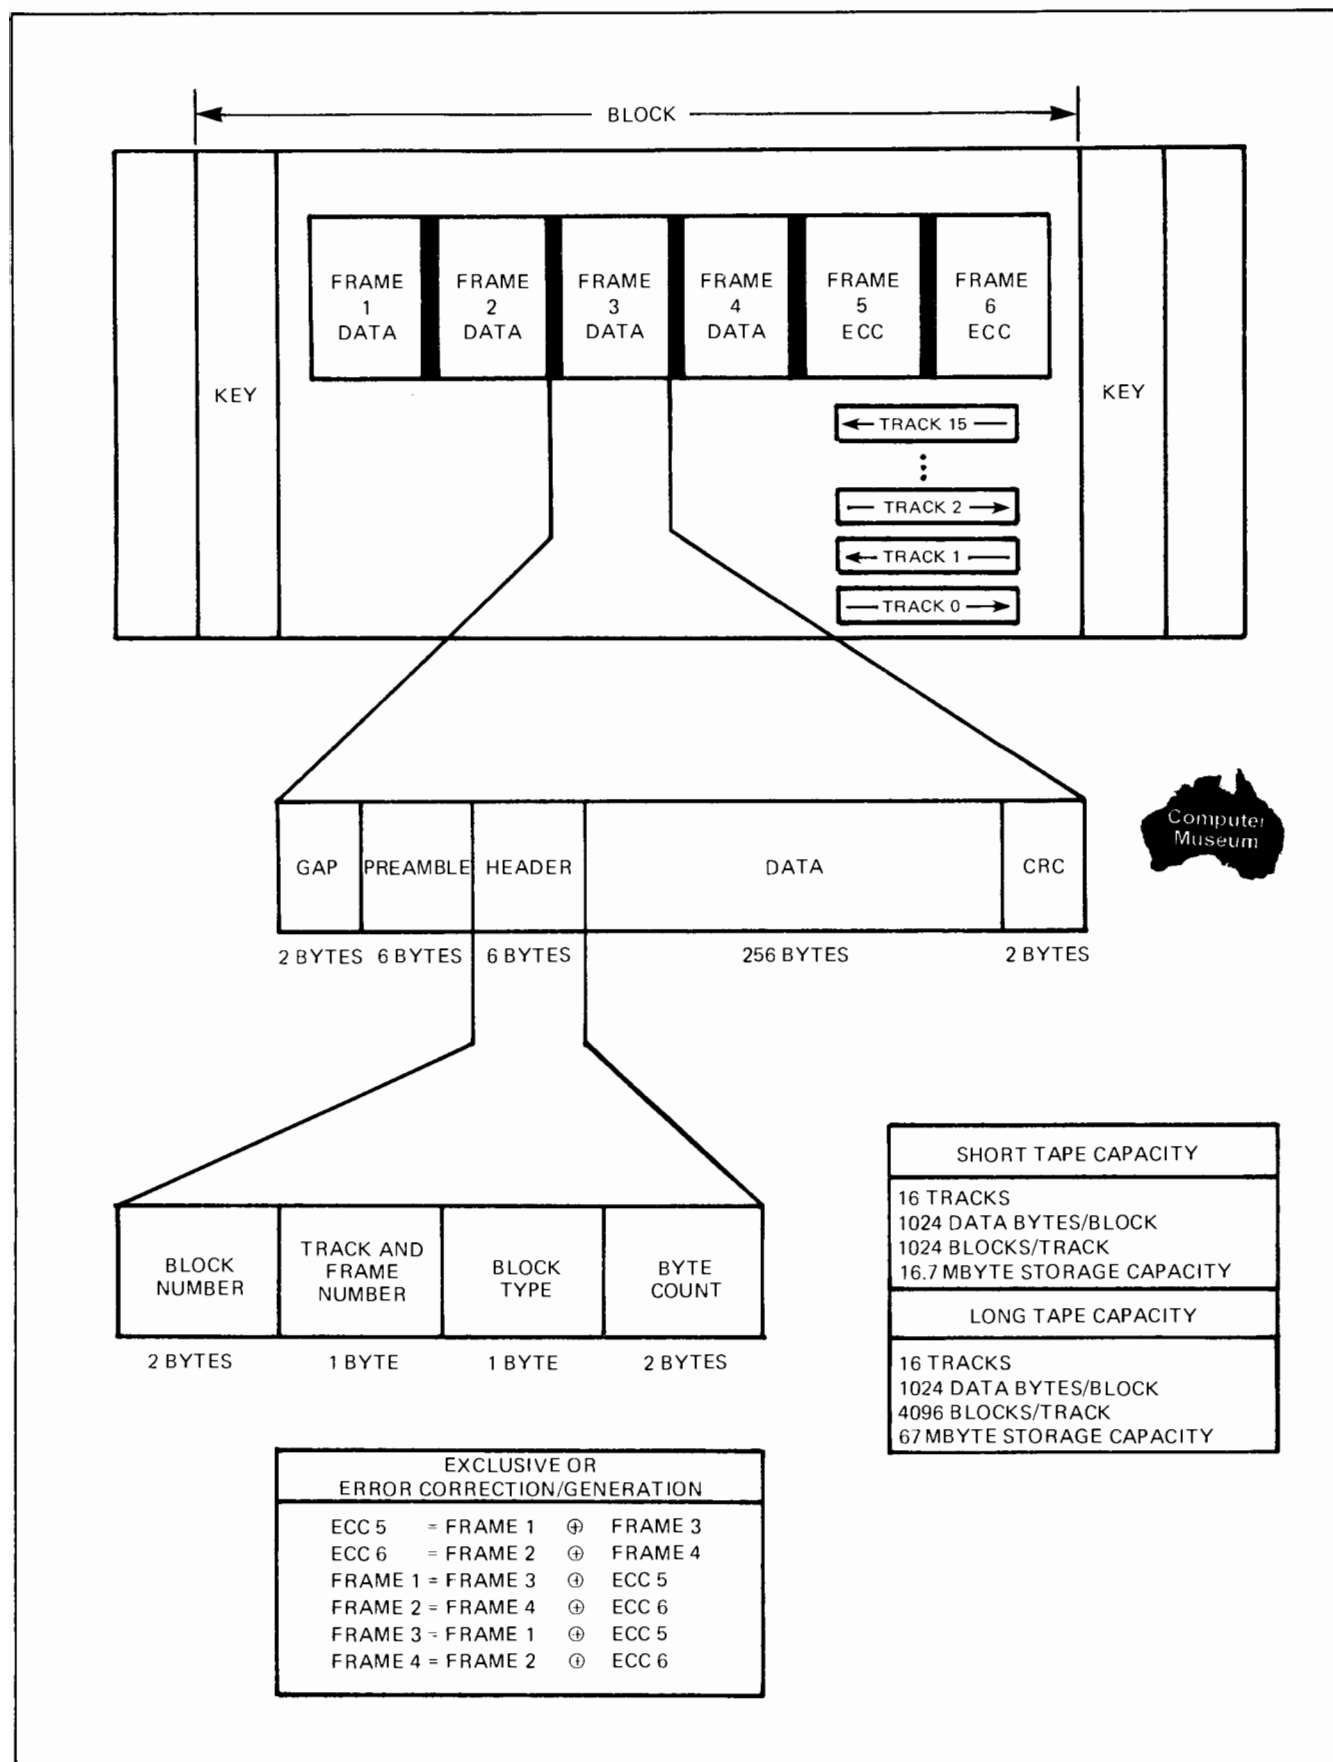

Figure 3-5. Tape Block Format
**3-71. TAPE CARTRIDGE.** The tape cartridge is preformatted (see figure 3-5) with a full width recording device which writes keys across the one-quarter inch width of the tape. A key contains a unique number which identifies the location along the length of the tape. The 150-foot tape has a capacity of 16.7 megabytes of user data achieved by recording 1022 blocks on each of 16 tracks; the 600-foot tape has a capacity of 67 megabytes of user data achieved by recording 4088 blocks on each of 16 tracks. In either tape, each block contains 1024 bytes of data, plus synchronization, header, and error correction information. The 16